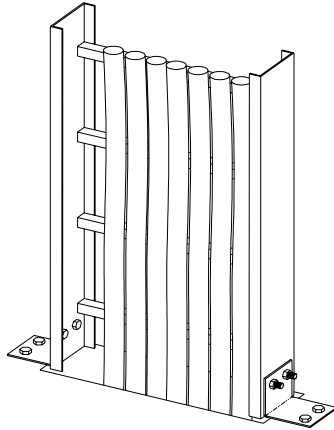

Figure 4.16A
4.3.5 Cable Tray-to-Box or Floor Splice Plates (See Figures 4.16A and 4.16B)